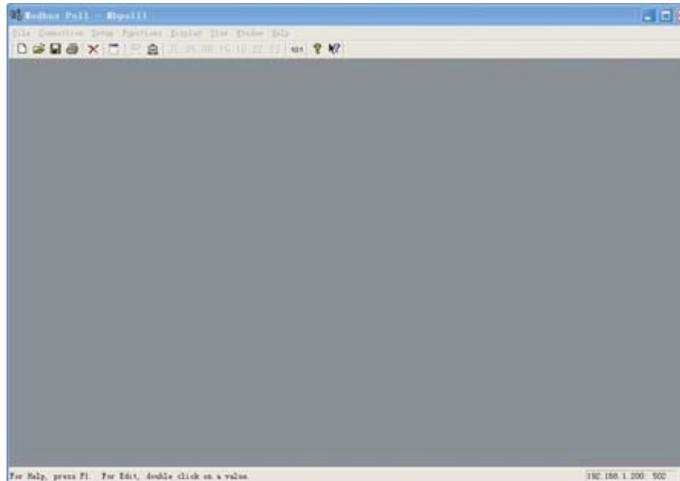

Fig.3.7
1)Choose "Connection"->"Connection" in figure 3.7,and then chose TCP/IP in the pop-up window:
Take writing holding register for example: Choose button 16 in Fig.3.7,as shown below: